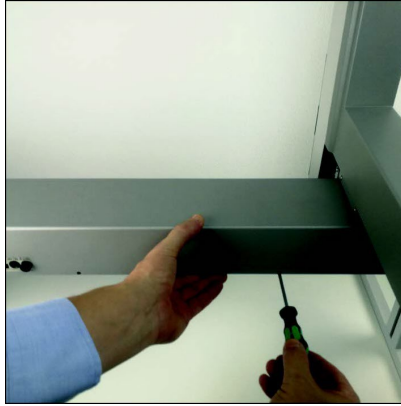

Figure 105: X-beam Rear Cover Removal 3
3. Using a Torx Tx10 screwdriver, loosen the screws on the back side of the cover. See Figure 105.